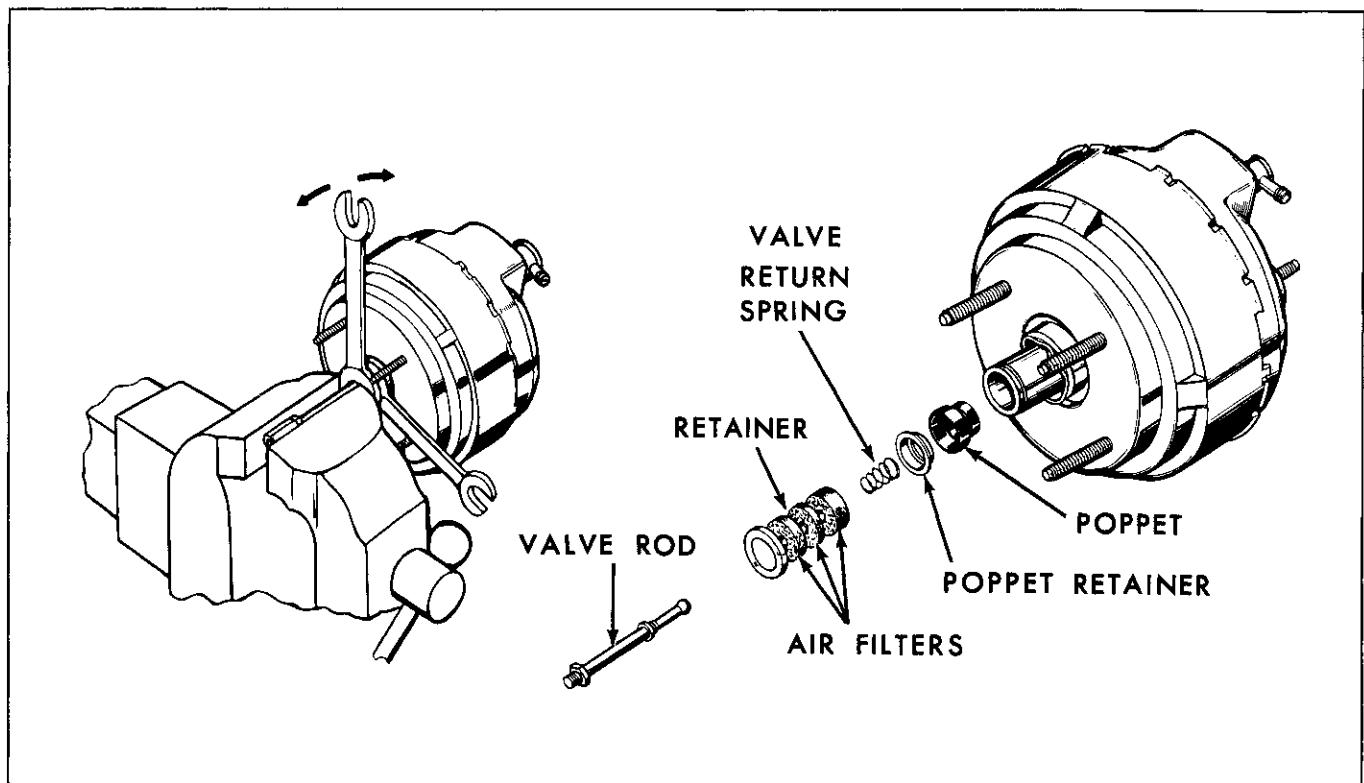

Fig. 5C-2 Valve Rod, Retainers, Filters and Poppet
- Assemble special tool combination as shown in Fig. 5C-3.
2. Place assembly in arbor press (Fig. 5C-3A) with rear shell and spanner wrenches up. Secure tool J-8433 to press to prevent tilting of front shell.